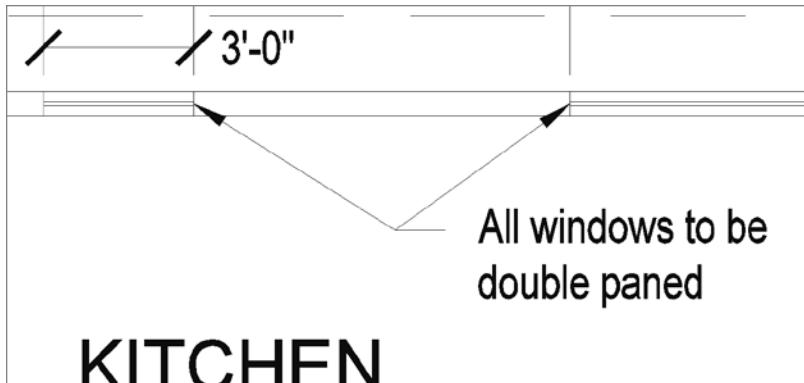

FIGURE 12.58 Using grips to move the position of leader lines
7. Click the grip at the tip of the left leader and then move the grip to the end of the inner pane of the left window (see Figure 12.58).
8. Click the grip at the tip of the right leader, and move the grip to the left end of the inner pane of the right window (also shown in Figure 12.58).